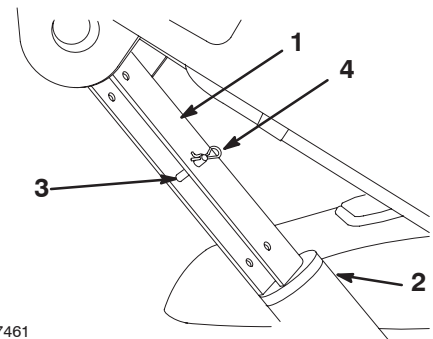

Figure 24
- Remove the hairpin cotter and clevis pin securing the cylinder lock to the frame (Fig. 24)
- Place the cylinder lock over the cylinder rod and secure it with the clevis pin and hairpin cotter (Fig. 24).
- Place the cylinder lock in its storage location on the frame and secure it with the clevis pin and hairpin cotter (Fig. 24).